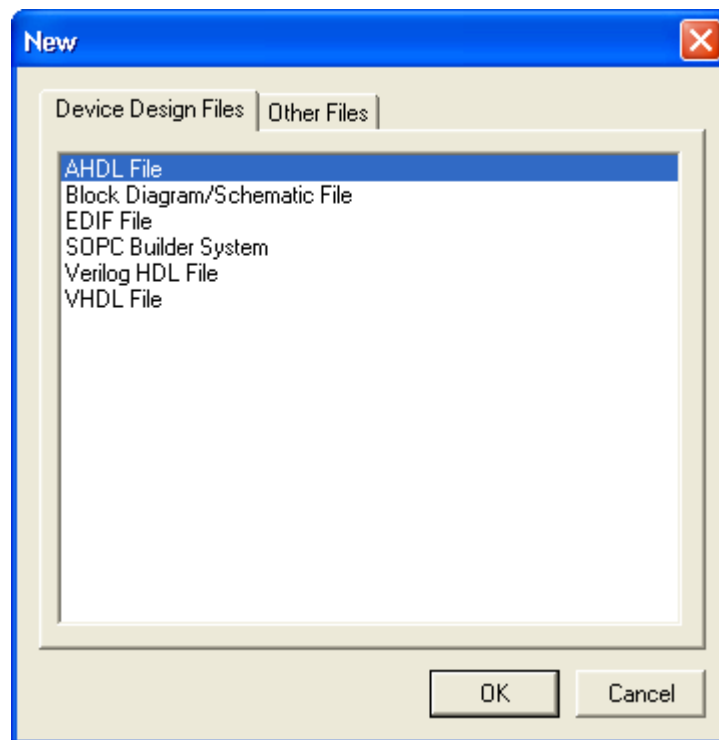
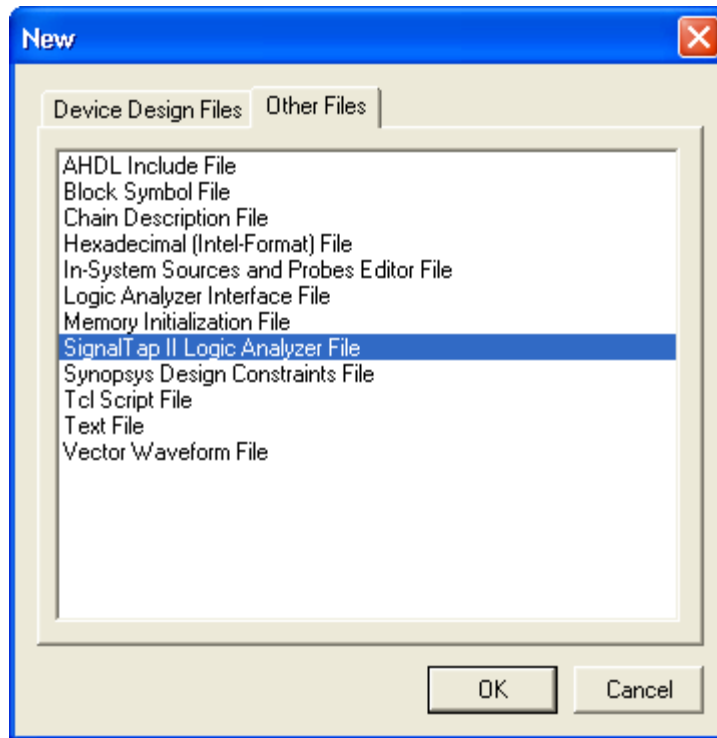

Figure 2. Need to prepare a new file.
Figure 3. Choose to prepare a SignalTap II File.
1. Open the SignalTap II window by selecting **File > New**, which gives the window shown in Figure 2. Click on the **Other Files** tab to reach the window displayed in Figure 3. Choose **SignalTap II Logic Analyzer File** and click **OK**.